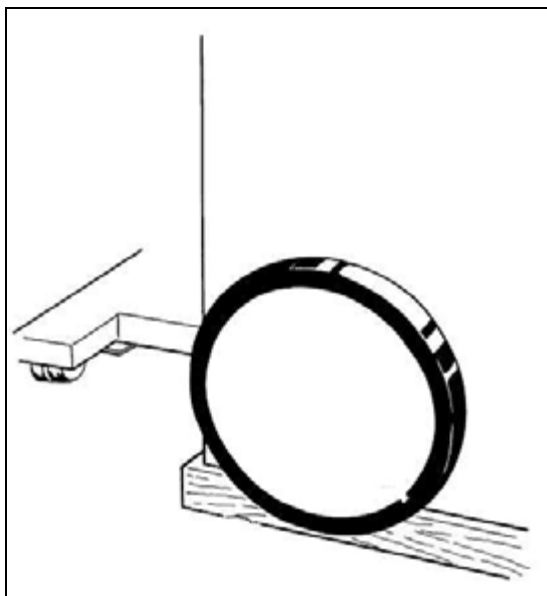

Fig. 1:
- Jack up one side of the unit with a piece of wood placed under the chassis (Fig. 1 / p. 26).